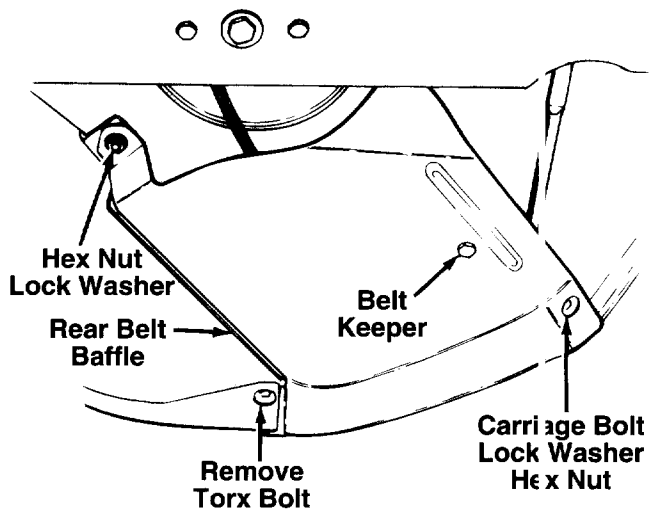

FIGURE 18.
4. Remove the rear belt baffle by removing the lock washer and hex nut shown in figure 18. Then remove one Torx bolt, using a #27 Torx driver. A 9/64" Allen wrench may also be used. Then remove one carriage bolt, lock washer and nut as shown.
All units: When reassembling the rear belt baffle, make certain the belt keeper is outside of the belt, and the edge of the rear belt baffle is between the rear chute baffle and the rear panel as shown in figure 18. Make certain to tighten all nuts and bolts securely. If plastic was placed under the gas cap, be certain to remove it.